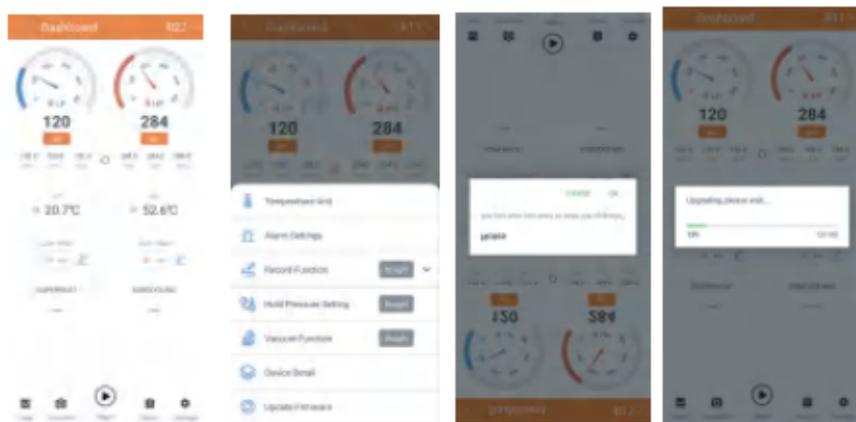

Figure 10 Device firmware upgrade
- 3.If the latest firmware needs to be upgraded, the device will enter the upgrade process ,and the interface will show that **Update...** (Figure 10).